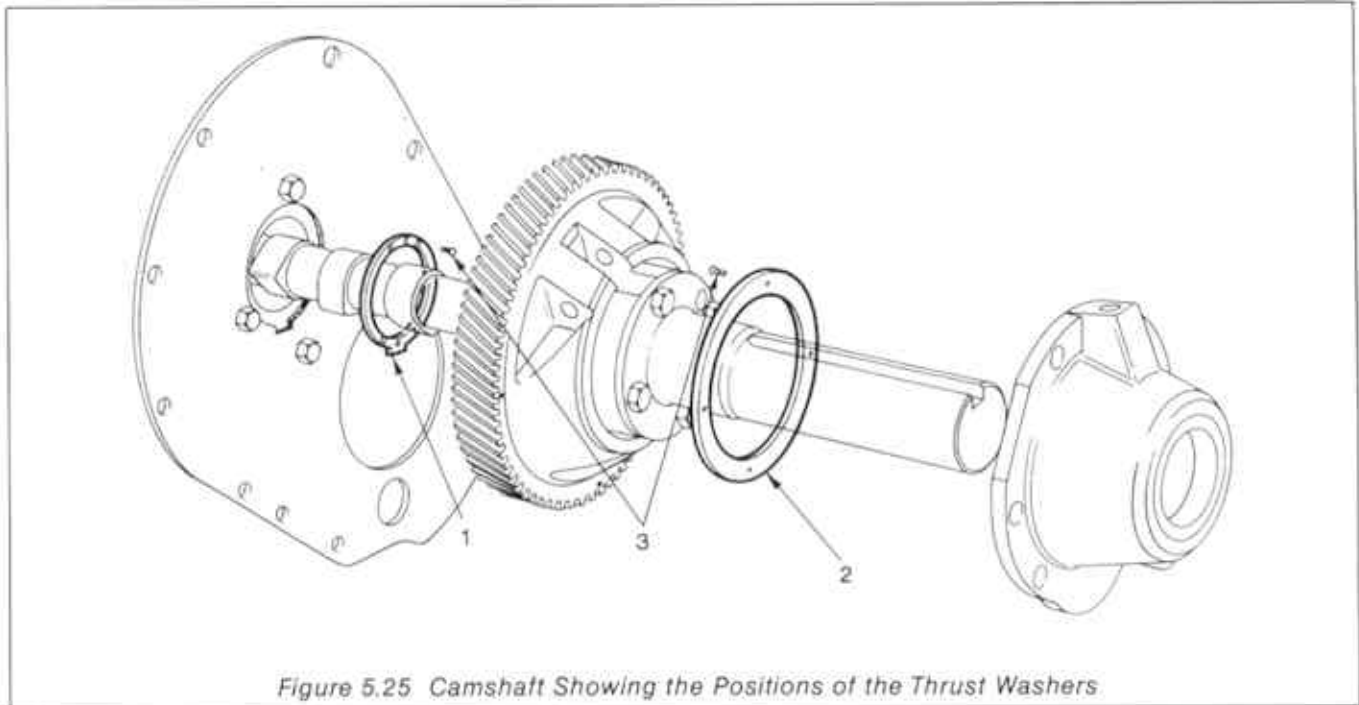

Figure 5.25 Camshaft Showing the Positions of the Thrust Washers
- (1) Ensure that all bearing surfaces are clean and lubricated before inserting the camshaft and governor assembly.
- (2) Fit the valve tappets and hold in position using a rubber band or string.
- (3) Ensure that the two thrust washers are securely located in position. One thrust washer (1) is located behind the camshaft gearwheel the other (2) to the inside of the gear cover. Both thrust washers are held in position by securing pins (3) (Figure 5.25).
- (7) If the endfloat is excessive fit new thrust washers. When fitting new thrust washers, ensure that the grooved side of the inner thrust washer is against the thrust face of the camshaft and that the tongue is located in the recess. Secure the thrust washers in position using new pins (Figure 5.25).